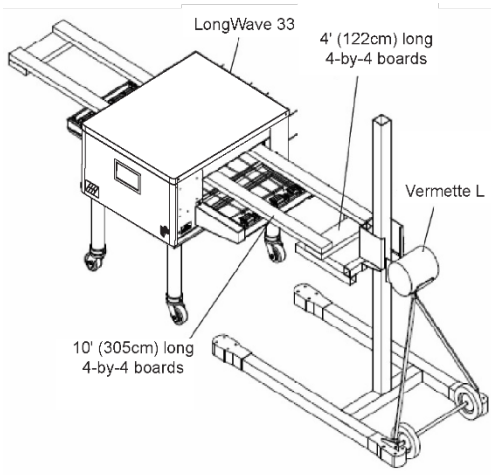

Figure 18.
3. Slide the two 10' (305cm) long 4-by-4 boards through the oven cavity. The boards should be sticking out of the oven equally on both sides. One of the boards should be placed to the rear of the oven and the other in the front of the oven. See Figure 18.
4. Position the two Vermette lifts on opposite ends of the oven under the 10' (305cm) boards, making sure the legs with wheels are up as close as possible to the skid. Place the two 4' (122cm) long 4-by-4 boards across the two Vermette forks, at least 6" (15cm) in from the end of the forks, and centered with the 10' (305cm) boards running through the oven cavity. See Figure 18.
- Slide the two 10' (305cm) long 4-by-4 boards through the oven cavity. The boards should be sticking out of the oven equally on both sides. One of the boards should be placed towards the rear of the oven and the other in the front of the oven. See Figure 18.
centered with the 10' (305cm) boards running through the oven cavity. See Figure 18.